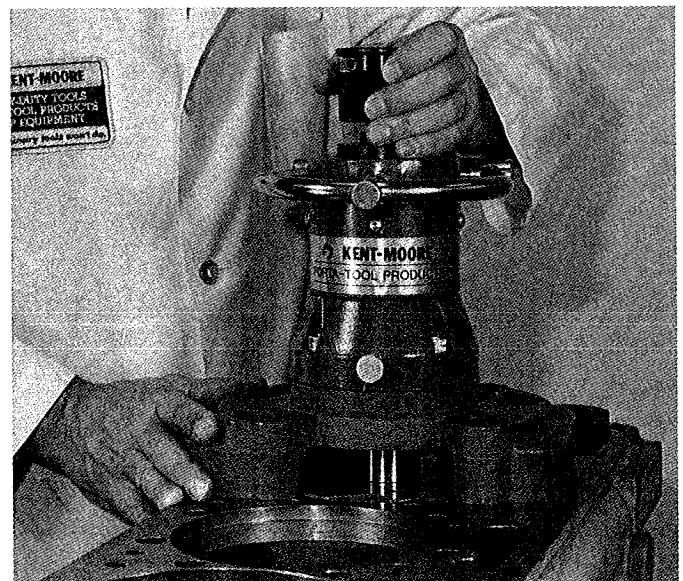

FIGURE 4
2. Place PT 2050-D Porta-Matic over bore to be cut. Open Feed Valve and lower the cutter plate into the bore. Push down firmly on the mainshaft while rotating the cutter plate in the bore to ensure proper alignment. (See Figure 4.)
3. With cutter plate centered in bore, align base plate with (4) cylinder head bolt holes in block maintaining as much baseplate-to-block contact as possible. Install washers, stud adapters and cap screws through baseplate and into block. (Handle may be swung up for easy access to cap screws).